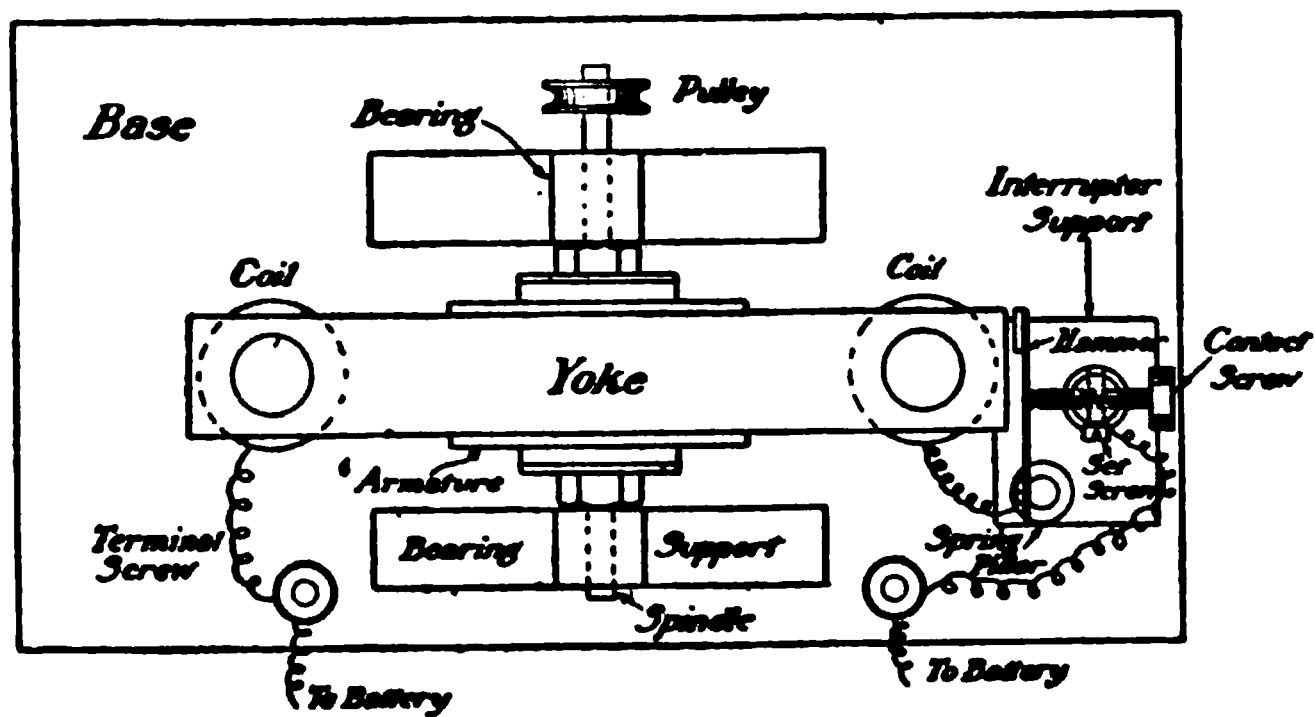

Fig. 89.—Side view and plan of induction motor (some details omitted).
The machine which we are about to describe is shown in its main features in Fig. 89. The base is of wood, and upon it stand two blocks, also of wood. On the top of each of these last is one of the field-magnet coils. Stretching between these two coils, one under and one over them, are two curved pieces of hoop iron, the "yokes," the curves in which enclose a circular space inside which turns the armature or revolving part. The armature is fixed upon a spindle the ends whereof run in bearings, which, for the sake of simplicity, are not shown in this diagram.
The armature is best made of steel stampings, which can be bought for the purpose ready made to shape from dealers in electrical sundries. These are discs of thin sheet iron. A convenient size is 3-in. diameter, with a  $\frac{1}{2}$ -in. hole in the centre. Around the edge are cut twelve slots, as shown in Fig. 89, to accommodate the wires. About two dozen of these discs are needed.
*Bearings.*—It is not necessary to describe these in detail, as they can be made in the same way as those for the steam turbine, described in Chapter XV. However made, they will be supported, of course, on two wood blocks fixed upon the base, as shown in the plan (Fig. 89). The precise position of the armature upon its spindle can be judged from Fig. 90. It is not of great importance provided there be enough of the spindle projecting at one side to go well into the bearing, and enough on the other to go through and leave a piece projecting